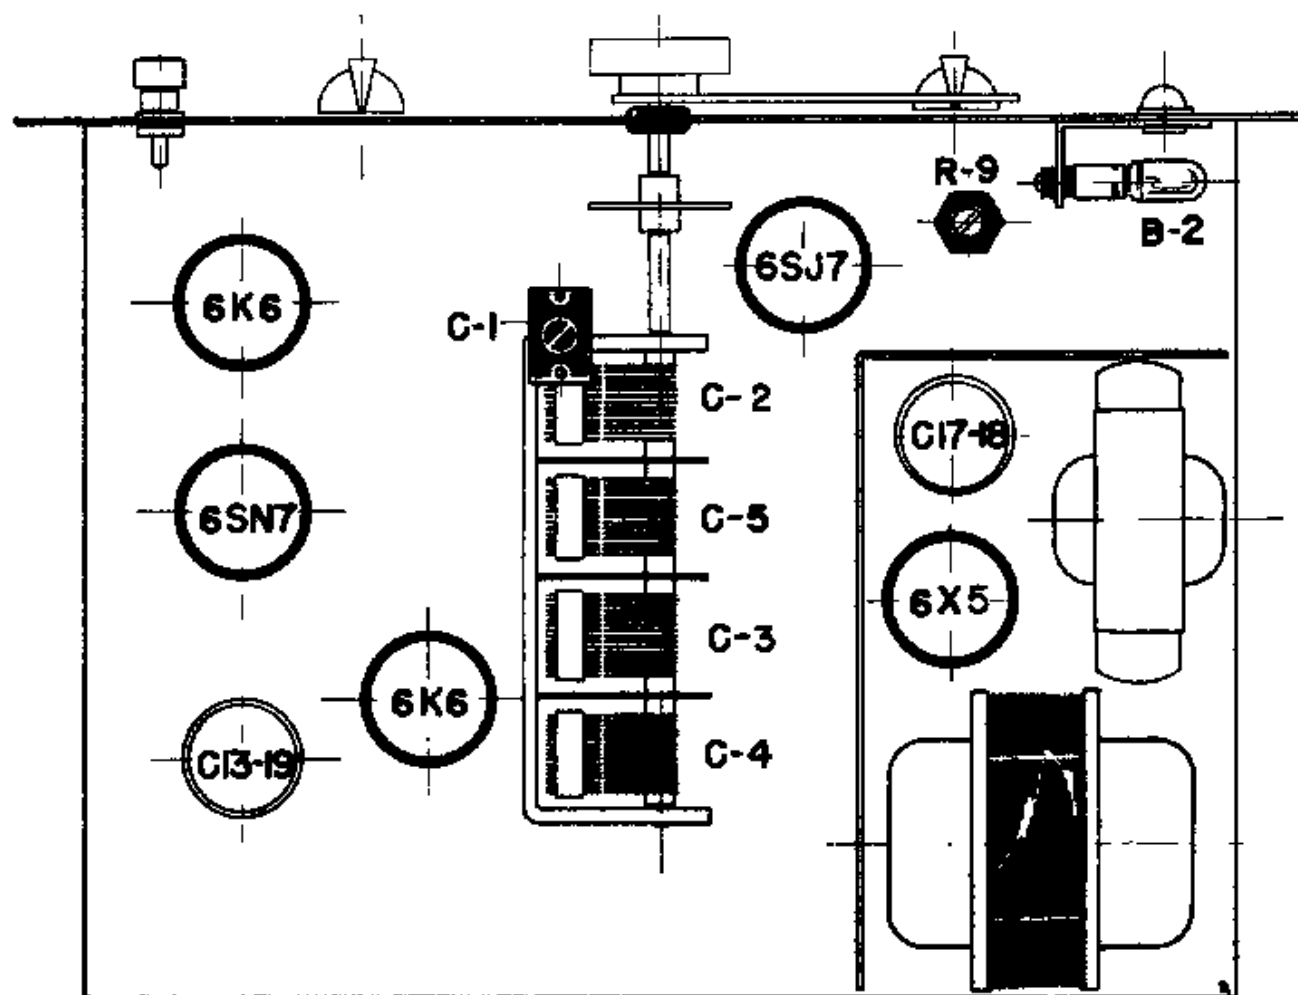

FIG. 15
**CALIBRATION:** The Model 377 is extremely stable. However, after a long period of use, it may require re-calibration due to aging of the components. The accuracy may be readily restored by using one of the methods below. Re-calibration will also be necessary whenever tubes or other components are replaced. Fig. 15 shows the locations of trimmer C1, pot R9, and the tubes.